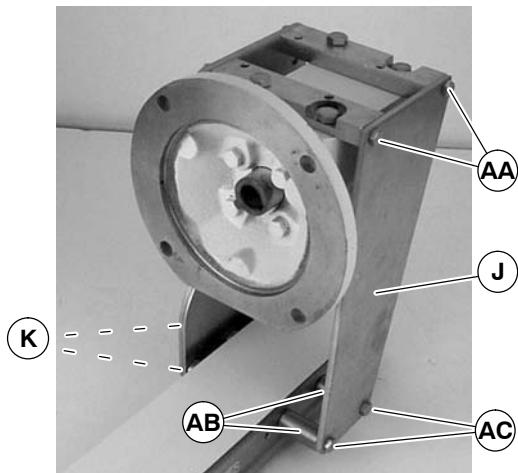

Figure 5
NOTE: 7200 Series 4" (102mm) and wider mounting assembly shown. 2" (51mm) and 3" (76mm) wide mounting assemblies include two spacer tubes (AB of Figure 5) and two long M6 screws (AC).
- 2b. For 2" (51mm) and 3" (76mm) conveyors, loosen two screws (AA of Figure 5) on each side of top mount assembly (J). Attach top mount assembly to conveyor with two spacer tubes (AB) and screws (AC), and two screws (K). Tighten all screws to 92 in-lb (10.4 Nm).